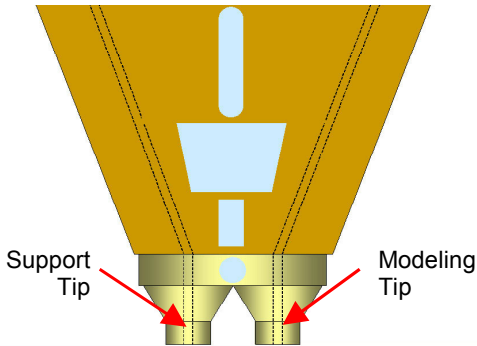

Figure 8. Closeup diagram of Extrusion Tips
7. Watch the appropriate extrusion tip (see diagram in Figure 8 on page 27) to see if material purges after loading. The panel will then display `Did material purge?`